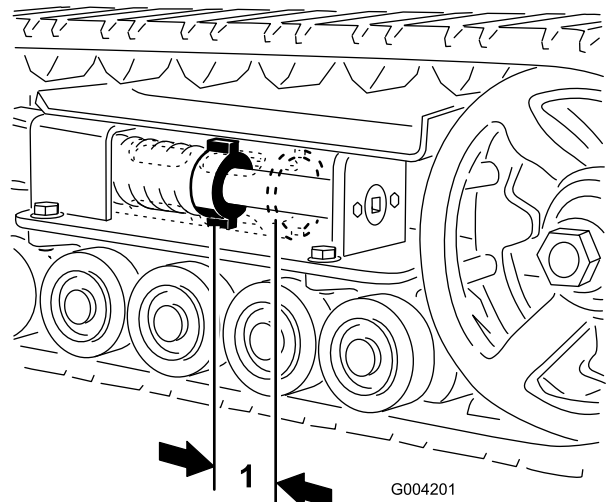
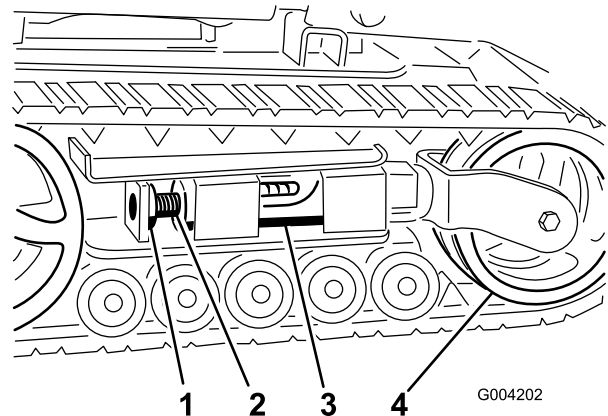
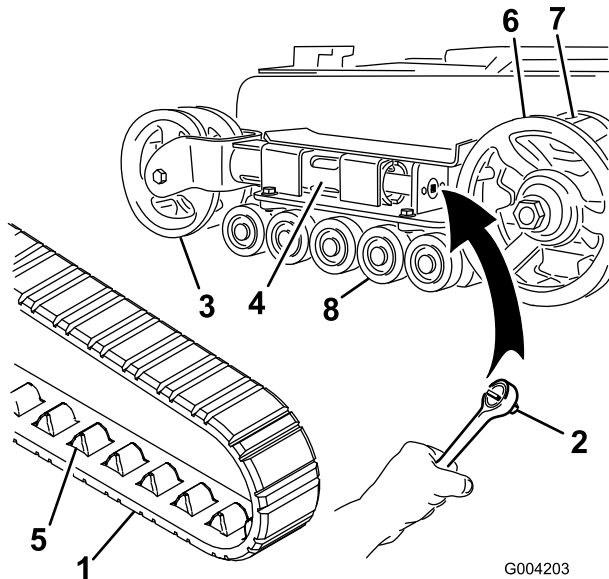
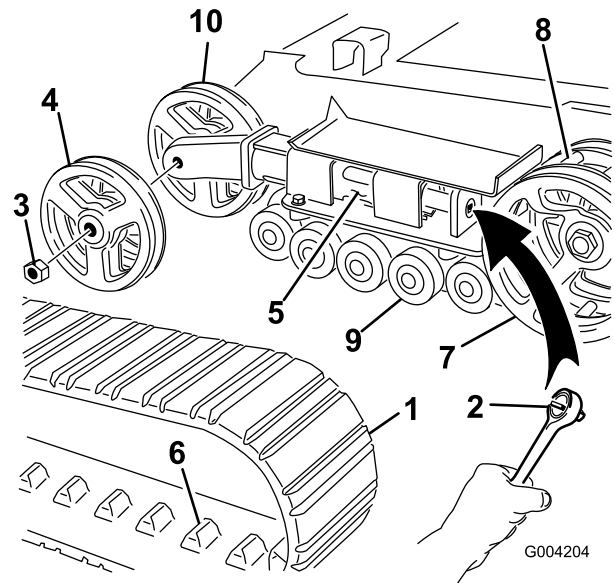

Figure 41
Figure 42
Figure 43
Figure 44
There should be 2-3/4 inches (7 cm) between the tension nut and the back of the tension tube (Figure 41). If not, adjust the track tension using the following procedure:
3. Remove the locking bolt and nut (Figure 42).
4. Using a 1/2 inch drive socket wrench (Figure 43), turn the tensioning screw counter-clockwise until the distance between the tension nut and the back of the tension tube (Figure 41) is 2-3/4 inches (7 cm).
5. Align the closest notch in the tension screw to the locking bolt hole and secure the screw with the locking bolt and nut (Figure 42).
4. Using a 1/2 inch drive socket wrench, release the drive tension by turning the tensioning screw clockwise (Figure 42 and Figure 43).
5. Push the tension wheel toward the rear of the unit to move the tension tube against the frame (Figure 43). (If it does not touch the frame, continue turning the tensioning screw until it does.)
7. When the track is off of the tension wheel, remove it from the drive sprocket and road wheels (Figure 43).
8. Beginning at the drive sprocket, coil the new track around the sprocket, ensuring that the lugs on the track fit between the cogs on the sprocket (Figure 43).
9. Push the track under and between the road wheels (Figure 43).
11. Turn the tensioning screw counter-clockwise until the distance between the tension nut and the back of the tension tube (Figure 41) is 2-3/4 inches (7 cm).
4. Using a 1/2 inch drive socket wrench, release the drive tension by turning the tensioning screw clockwise (Figure 42 and Figure 44).
5. Push the tension wheel toward the rear of the unit to move the tension tube against the frame (Figure 44). (If it does not touch the frame, continue turning the tensioning screw until it does.)
6. Remove the nut securing the outer tension wheel and remove the wheel (Figure 44).
7. Remove the track (Figure 44).
8. Remove the nut securing the inner tension wheel and remove the wheel (Figure 44).
12. Install the inner tension wheel and secure it with the nut removed previously (Figure 44).
14. Install the new track, ensuring that the lugs in the track fit between the cogs in the middle of the drive sprocket (Figure 44).
15. Install the outer tension wheel and secure it with the nut removed previously (Figure 44).
17. Turn the tensioning screw counter-clockwise until the distance between the tension nut and the back of the tension tube (Figure 41) is 2-3/4 inches (7 cm).